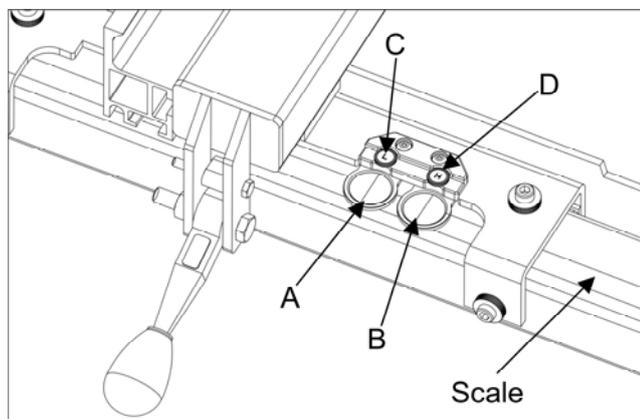

Fig. 13
5.4.5. Post the tape scale use the pointer window (Fig.13)
The machine features a Hi-Low fence with two pointer windows. As shown in Fig.13, two pointer windows can be adjusted individually. The pointer window (A) is for the lower fence while pointer window (B) is for the high fence. You can micro-adjust the position of pointer window by loosening the knob (C) or (D).
Place the fence as a lower fence, as shown in Fig.13. Slide the fence against the blade, check that if the "0" mark is directly under the red line on the pointer window (A), if any deviation occurs, loosen the knob (C), micro-adjust the pointer window (A), so that the red line on the window is over the "0" mark on the tape, then secure the knob (C).